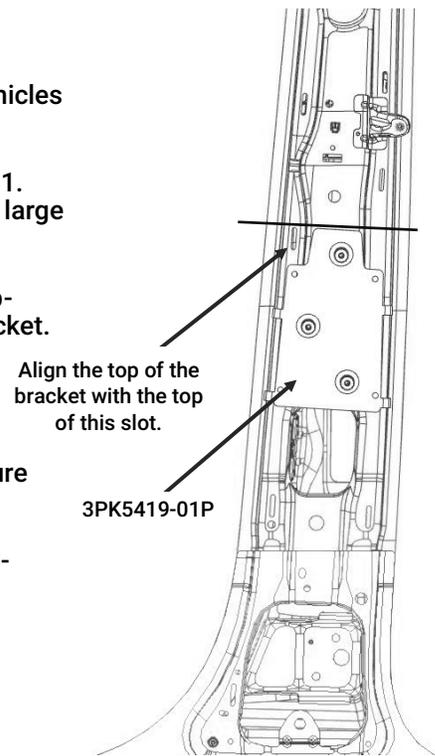

Figure 1
- B. Align the top of the bracket with the top of the slot shown in Figure 1. The bottom of the B-pillar bracket should be just below the top of a large hole near the bottom of the B-pillar.
- E. Place the b-pillar bracket back into position on the vehicle and secure using (4) self tapping screws [3X162].